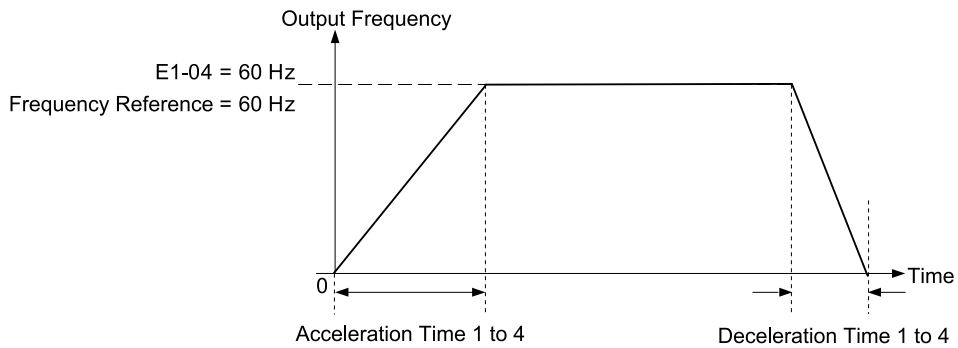
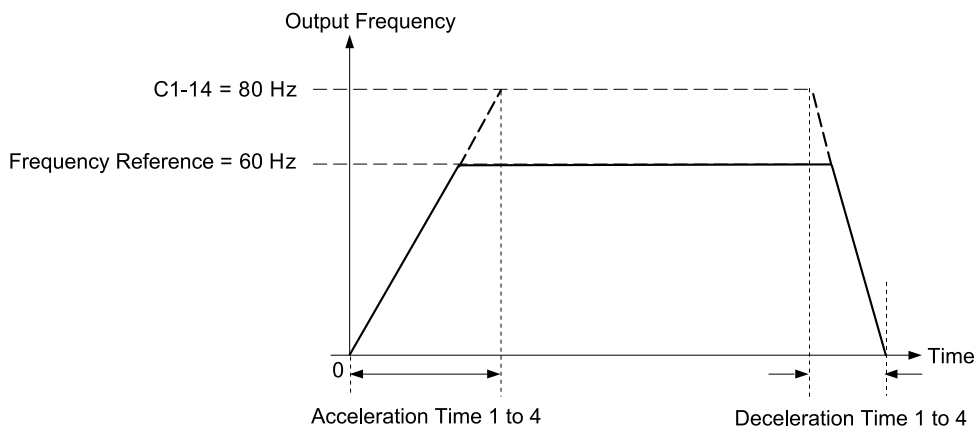

Figure 2.47 Example 1: Acceleration/Deceleration Rate (When C1-14 = 0 Hz, E1-04 = 60 Hz, and the Frequency Reference is 60 Hz)
Figure 2.49 Example 3: Acceleration/Deceleration Rate (When C1-14 = 80 Hz, E1-04 = 60 Hz, and the Frequency Reference is 60 Hz)
- Figure 2.47 to Figure 2.49 show the accel/decel times when C2-01 to C2-04 [*S-Curve Times @ Start/End of Accel/Decel*] = 0.00 s.